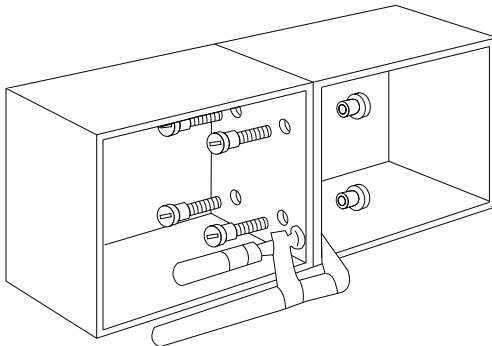

Fig. 3
9. If installing multiple units side by side, once they are both in the correct position, clamp them together using speed clamps and fix together using the fixings provided, *as per Fig. 3.*